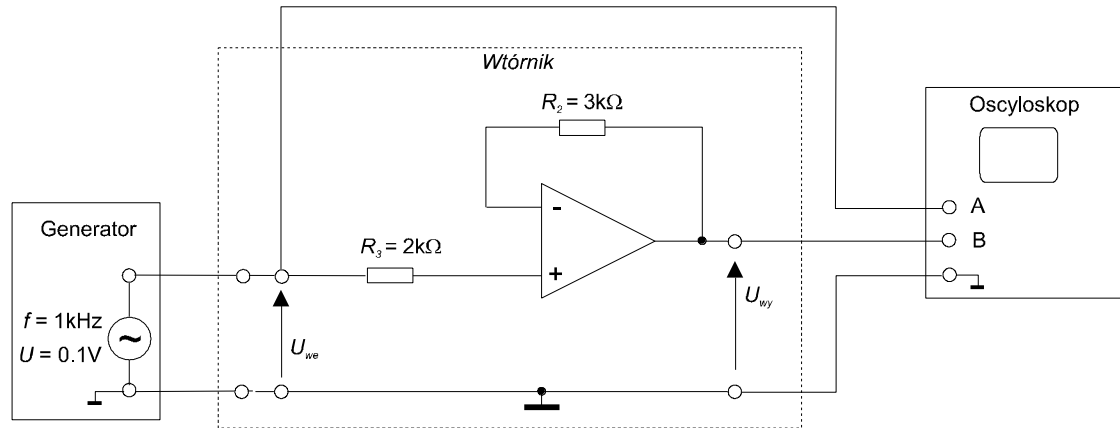

Fig. 9.3.3. A duplicate test system
- Connect the measuring system from Fig. 9.3.3. where $R_2 = 3 \text{ k}\Omega$ i $R_3 = 2 \text{ k}\Omega$. Redraw the diagram of the duplicate amplifier. At the input of the amplifier, give the generator a sinusoidal signal with an amplitude $U_{we} = 0.5 \text{ V}$ and frequencies $f = 1 \text{ kHz}$